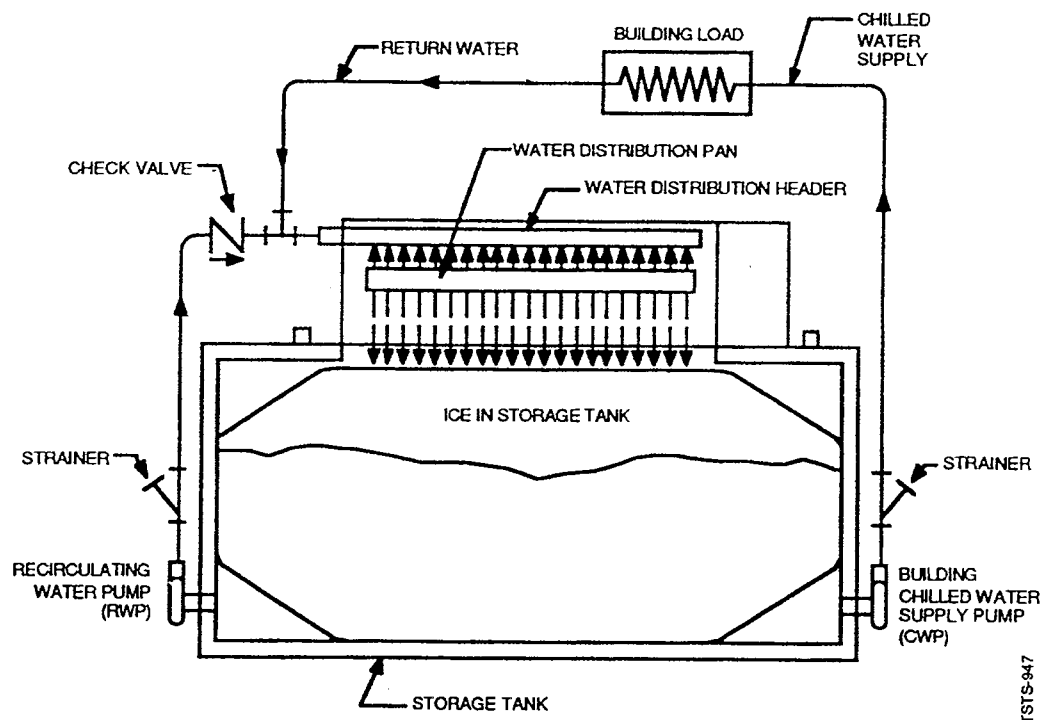

Figure 3-21 Return Water Connections
stored in the storage tank. Refer to Figure 3-21. Return of the water to the primary distribution system is ideal but may not be practical in all installations due to variations in operating parameters. For example, the building chilled water supply pump flow rate may exceed the flow capacity of the water distribution header and pan sized for the optimum evaporator recirculation flow rate. In these cases, it may be necessary to bypass part of the return water flow directly to the tank. If this is necessary, a bypass water distribution header should be installed inside the tank top to distribute the water bypass over the ice pile.
1. If the RWP and CWP flow rate are the same, or if the CWP flow rate is less than the RWP flow rate, all of the return water is piped to the existing water distribution system as shown in Figure 3-21.